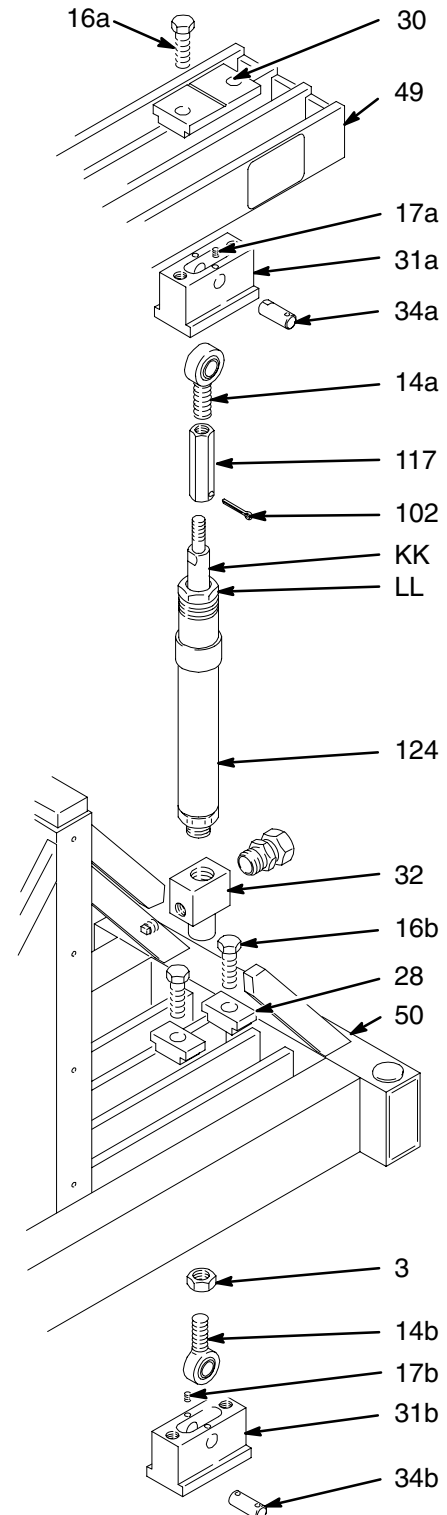

Fig. 14
NOTE: Refer to Fig. 14 for steps 4 to 10.
NOTE: Refer to Fig. 14 for Steps 1 to 3.
- a. Screw the secondary pump (124) into the inlet manifold (32). The manifold must face the end of the VRHC as shown in Fig. 14. If it does not, rotate the secondary displacement pump until it does, and tighten the locknut (3) against the inlet manifold. Torque the locknut to 60 ft-lb (81 N.m).
- b. Replace the connecting rod assembly (117, 14a, 34a, 31a) onto the displacement rod, and line up the cotter pin holes. Insert the cotter pin (102).
- c. Raise the lever arm (49) and place the support (31a) under the proper slot.
- e. Place the ratio index clamp (30) over the top of the support (31a). Insert the capscrews (16a).
- f. Set the index clamp (30) for the proper ratio and tighten the capscrews (16a).
- a. Place a generous amount of Graco Gear Reducer Oil (43) on the inside of the lower bearing (14b) and the surface of the support pin (34b).
- b. Screw the locknut (3) onto the bearing (14b) threads until the locknut bottoms out.
- c. Slide the bearing into the slot in the support (31b). Insert the pin (34b) into place with the countersinks under the setscrew (17) holes. Tighten the setscrews to 35 in-lb (4 N.m). These are 10–32 self-locking setscrews. If no drag is felt while turning, replace the setscrew.
- d. Screw the secondary displacement pump (124) and manifold (32) onto the bearing (14b) until it bottoms out. Be sure it is not resting against the locknut (3).